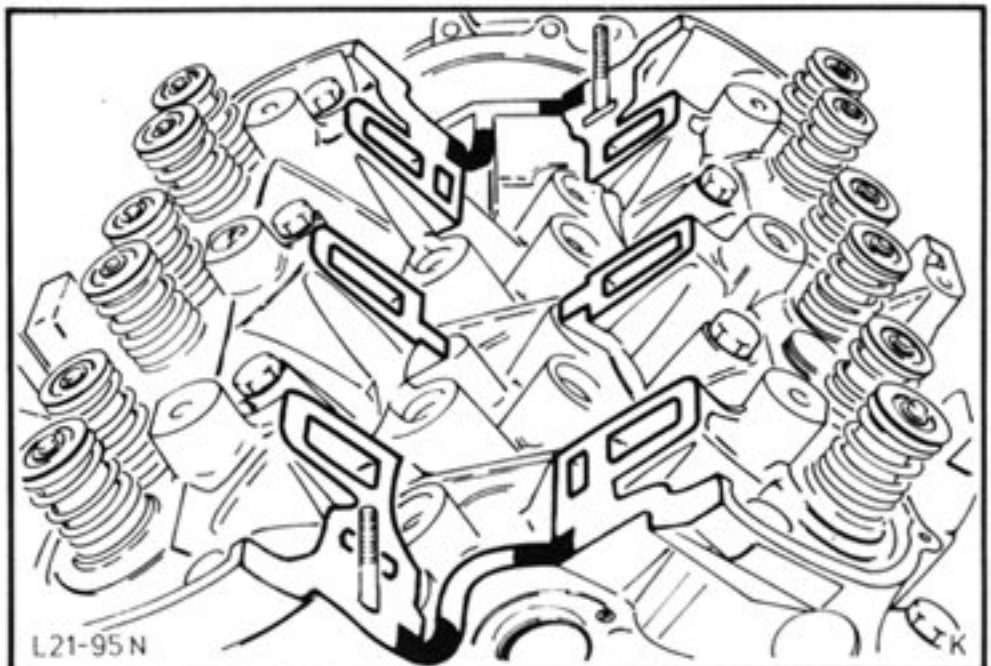

Fig.69. Apply sealing compound to gasket faces.
64. Apply sealing compound to two cylinder head and two cylinder block faces, and inlet manifold, Fig.69. Fit new inlet manifold gasket.